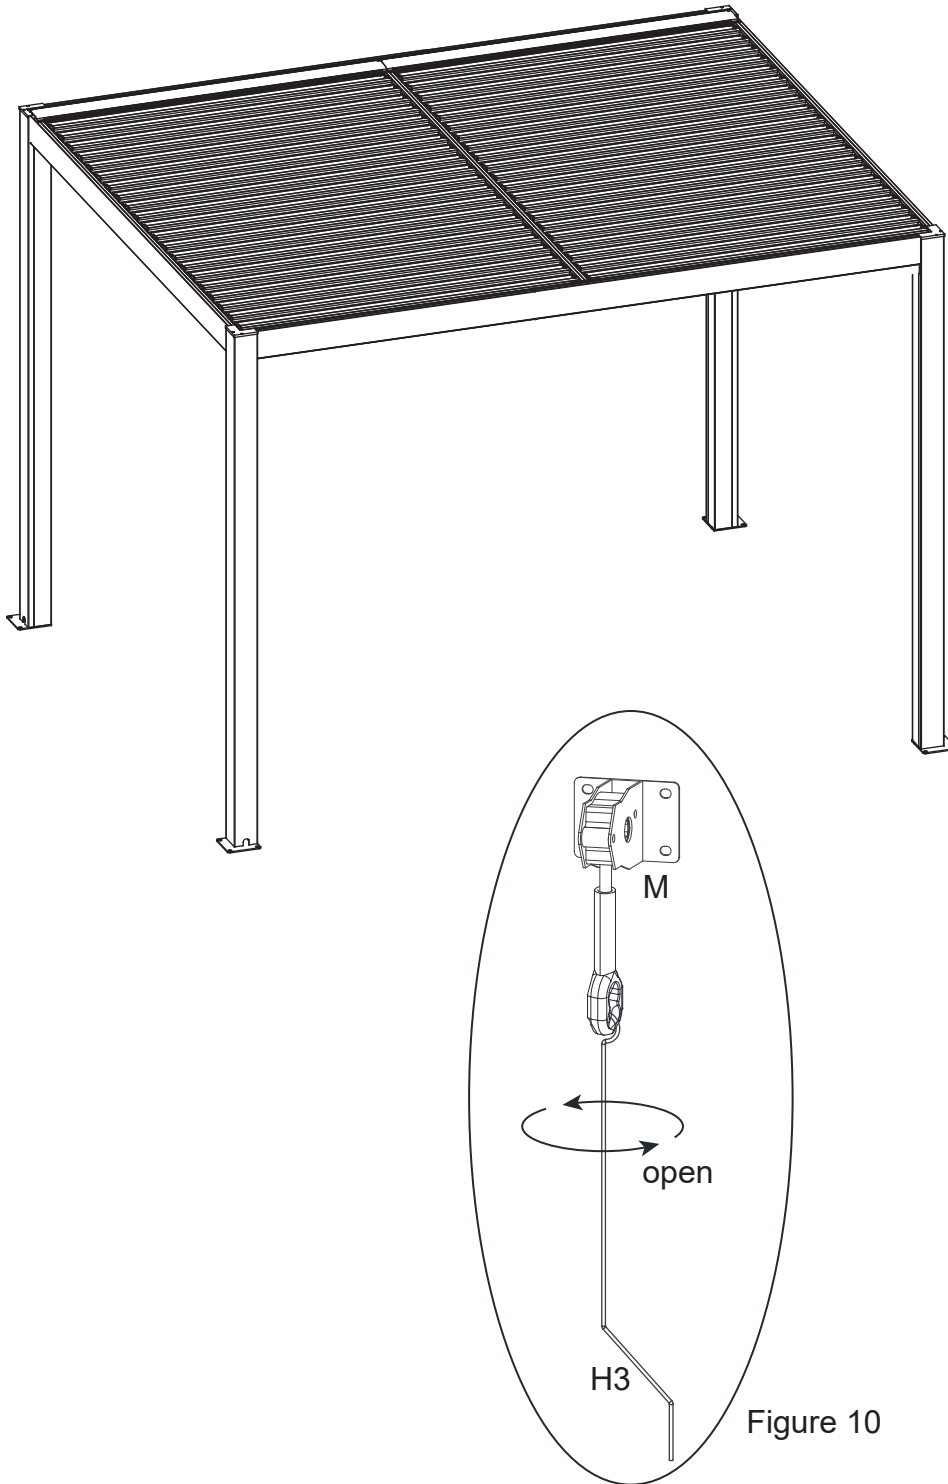

Figure 10
10. Hang the Crank (H3) on the Spinners (M) and turn to open or close the louvers. See Figure 10.